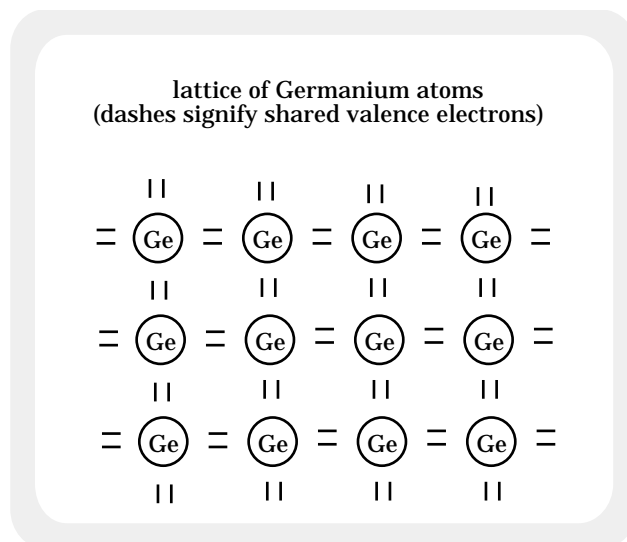

FIGURE 21.1
1.) By themselves, Germanium (Ge) atoms bond in the same way all insulators do--covalently. Each Germanium atom has four valence electrons which are shared with four Germanium neighbors. See Figure 21.1.